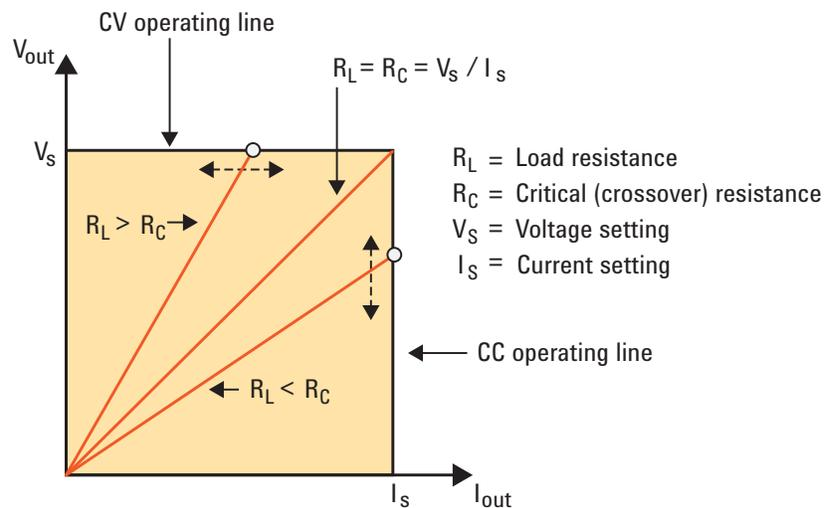

Figure 1: Power supply output characteristic
A power supply will operate in constant voltage (CV) mode provided the load does not require more current than the current limit setting. Based on Ohm's law,  $V = I \times R$ , maintaining a constant voltage while changing the load resistance requires the current to increase or decrease. As long as the current draw  $I_{out} = V_S / R_L$  is less than the current limit setting, the power supply regulates the output at the voltage setting. In Figure 1, the power supply will operate on the horizontal line  $V_S$  with  $I_{out} = V_S / R_L$ .
current limit setting. This operating mode is known as constant current (CC). In Figure 1, the power supply will operate on the vertical line  $I_S$  with  $V_{out} = I_S \times R_L$ .
- The load resistance is  $R_C$ , the value at which the output will crossover from CV to CC, or CC to CV (see Figure 1).